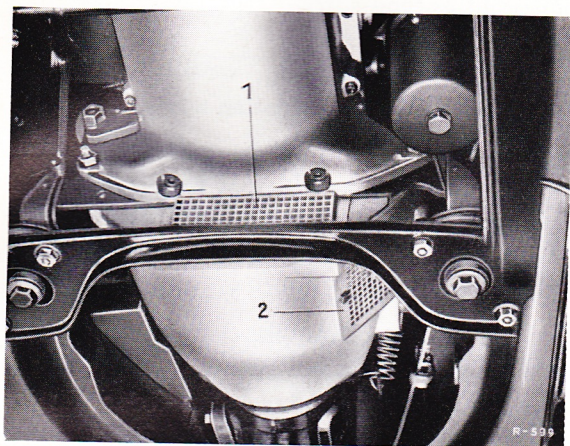

Fig. 25-1/4
9. Unscrew the two cover plates on the clutch housing – one at the bottom at the front of the housing (1) and the other on the left side of the housing (2) (Fig. 25-1/4).